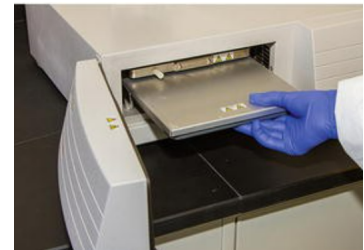

Figure 8: Hybridization Oven
9. Insert hybridization tray containing slides into hybridization oven and incubate at 40°C following the guidance in the table below (Table 11) (Figure 8).